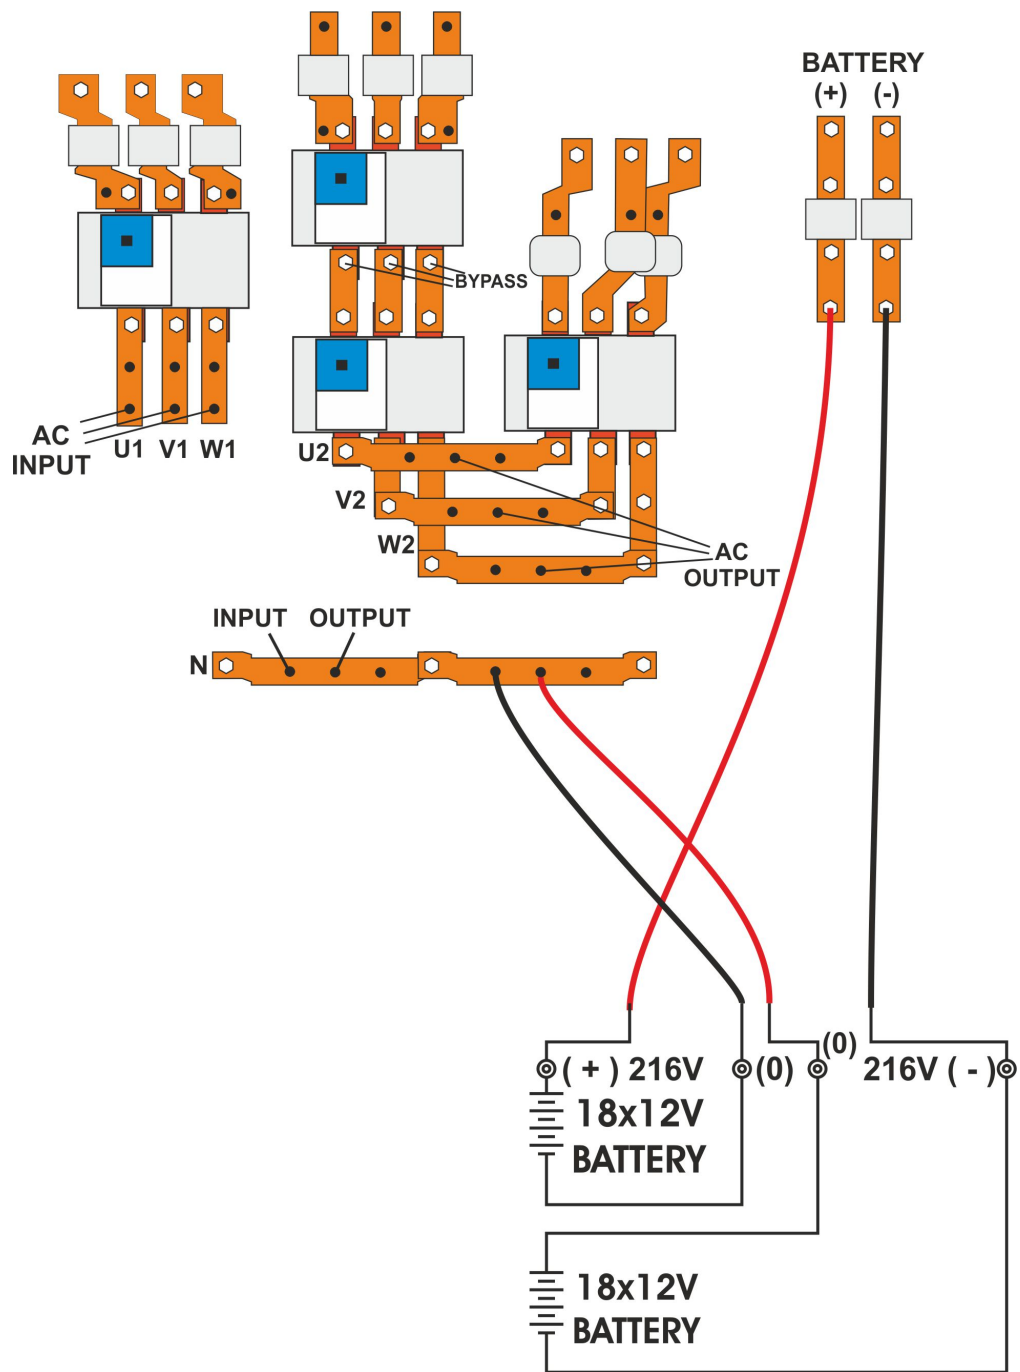

Figure 2.2 150-200 - 250 kVA POWER Cable Connection
Descriptions of the UPS input output cable connection terminals are shown in figure 2.2
2. Connect the 3 phase AC input coming from the mains distribution panel to the AC input terminals as shown on the label. (Figure 2.2)